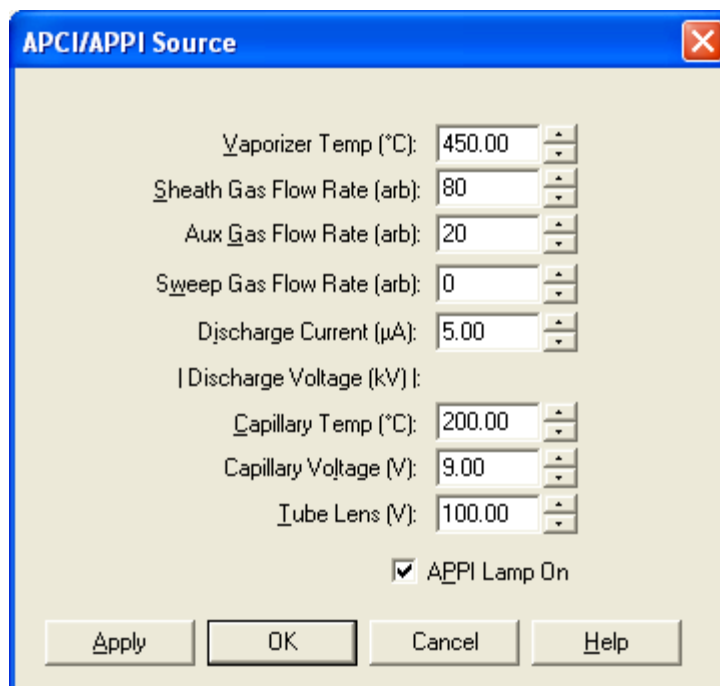

Figure 29. APCI/APPI Source dialog box, showing the proper settings for a typical high flow experiment
- a. On the Instrument Setup toolbar, click on the API Source button to open the APCI/APPI Source dialog box (Figure 29).
- b. Verify that the settings in your dialog box are similar to those shown in Figure 29. Set the APCI or APPI mode:
- To operate in APCI/APPI mode, set the corona discharge to your desired value and select the APPI Lamp On check box (Figure 29).
- To operate in APCI mode only, set the corona discharge to your desired value and make sure that the APCI Lamp on check box is not selected (Figure 29).